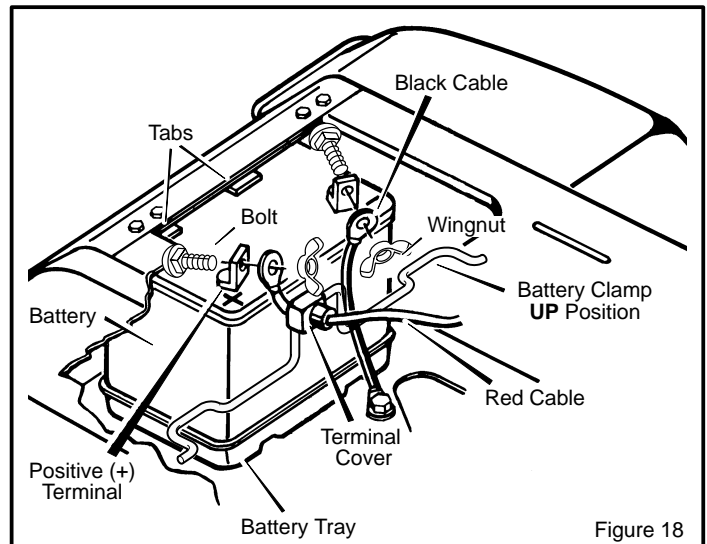

Figure 18
1. Remove the **black cable** from the negative (-) terminal (Figure 18).